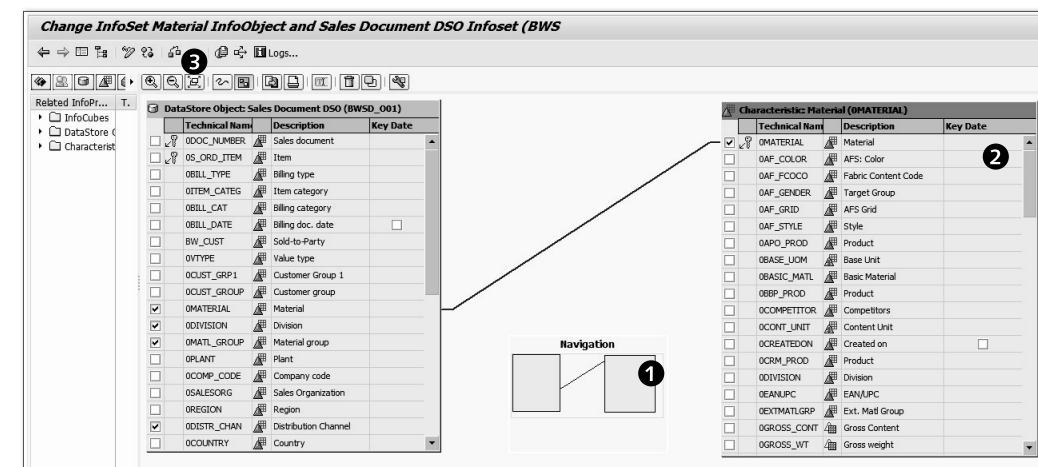

Figure 6.34 Result of Using the Navigator
Here you can drag the navigation square box ❸ to the rightmost side of the NAVIGATION box. The resulting screen is shown in ❶ of Figure 6.34. The content on the extreme right-hand side of the InfoSet definition screen is now visible ❷.